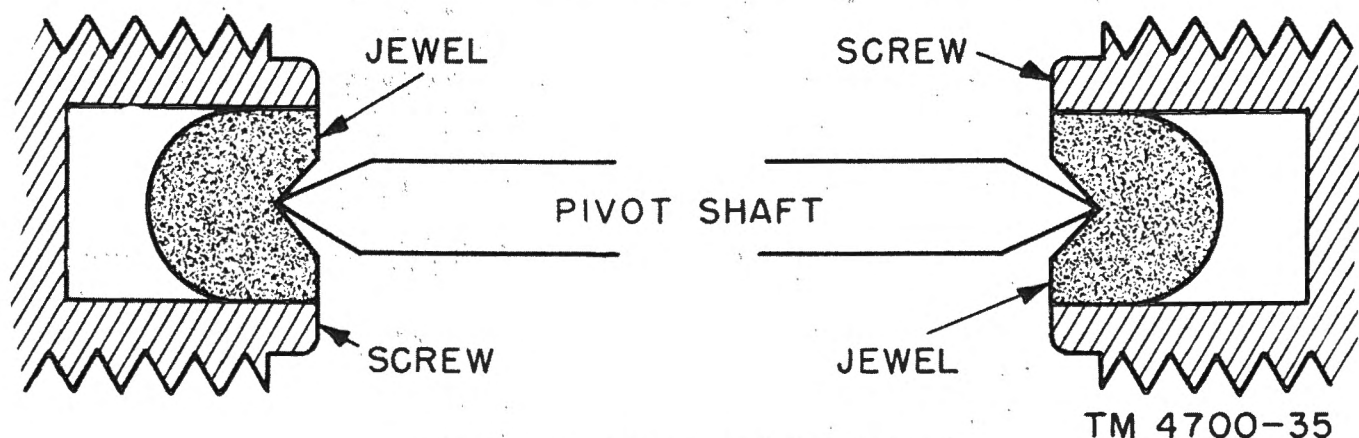

Figure 37. Correct position of pivots in jewels.
d. End-Play Adjustment. Proper end-play adjustment (fig. 37) is essential to the accurate functioning of a meter. If the moving element is set too tightly in the jewels, sluggish action will result, and the pivots will become flattened.